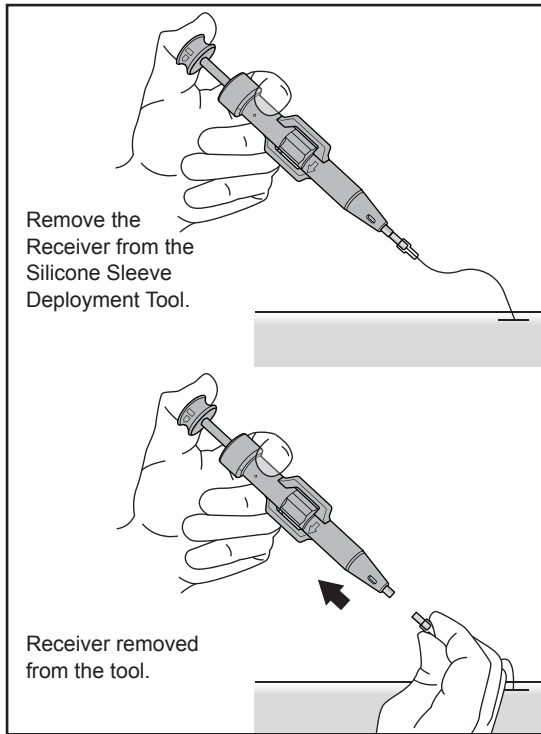
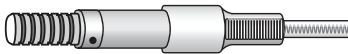
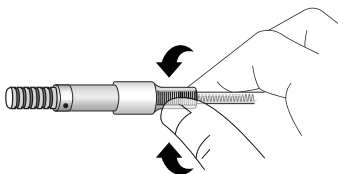

Figure 13: Removal of the Pulse Generator and Receiver from the Silicone Sleeve Deployment tool.
Figure 14: Final Layout of the silicon sleeve over the IPG and Lead Receiver
Figure 15: Gently roll fingers and compress the silicon sleeve over the lead body.
7. Rotate the tool handle counter-clockwise 90 degrees back to its original orientation and gently push. As illustrated in Figure 13, remove the StimRouter Lead and attached TalisMann Pulse Generator and Receiver with the deployed Silicone Sleeve, paying careful attention that the sleeve is deployed correctly over the Receiver/Pulse Generator and Lead. See Figure 14.
8. Visually ensure that the Silicone Sleeve is deployed approximately equidistant across both TalisMann Pulse Generator and Receiver and StimRouter Lead and snugly fits both components. See Figure 14. Gently roll and compress the Silicone Sleeve over the lead body to gain contact between sleeve and Lead. See Figure 15.